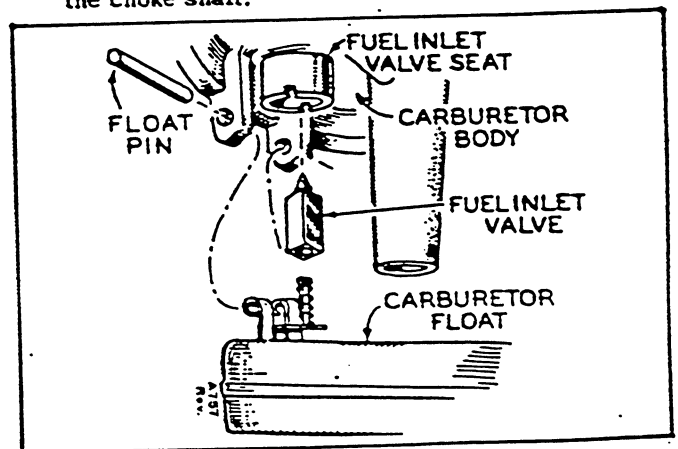

FIGURE 8. CARBURETOR DISASSEMBLY
5. Remove the float pin and float Figure 8.